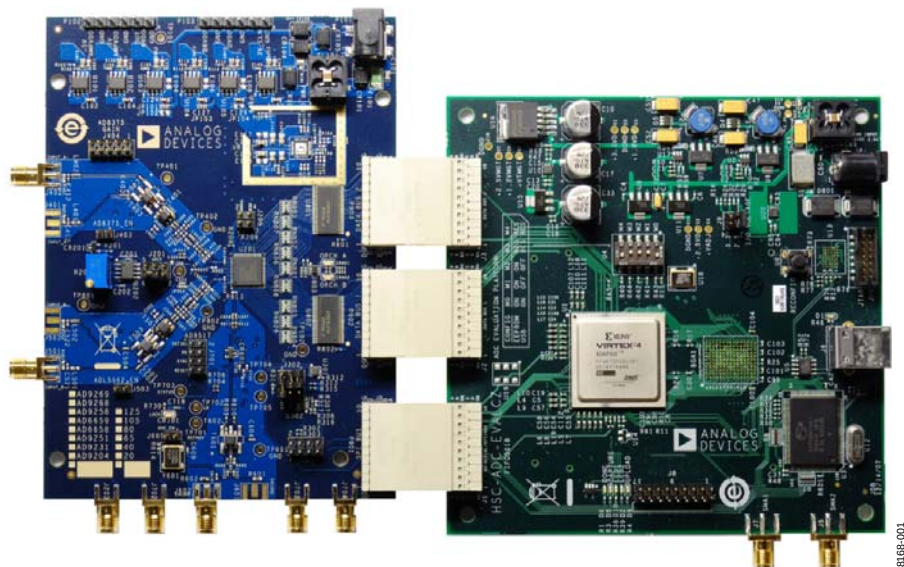
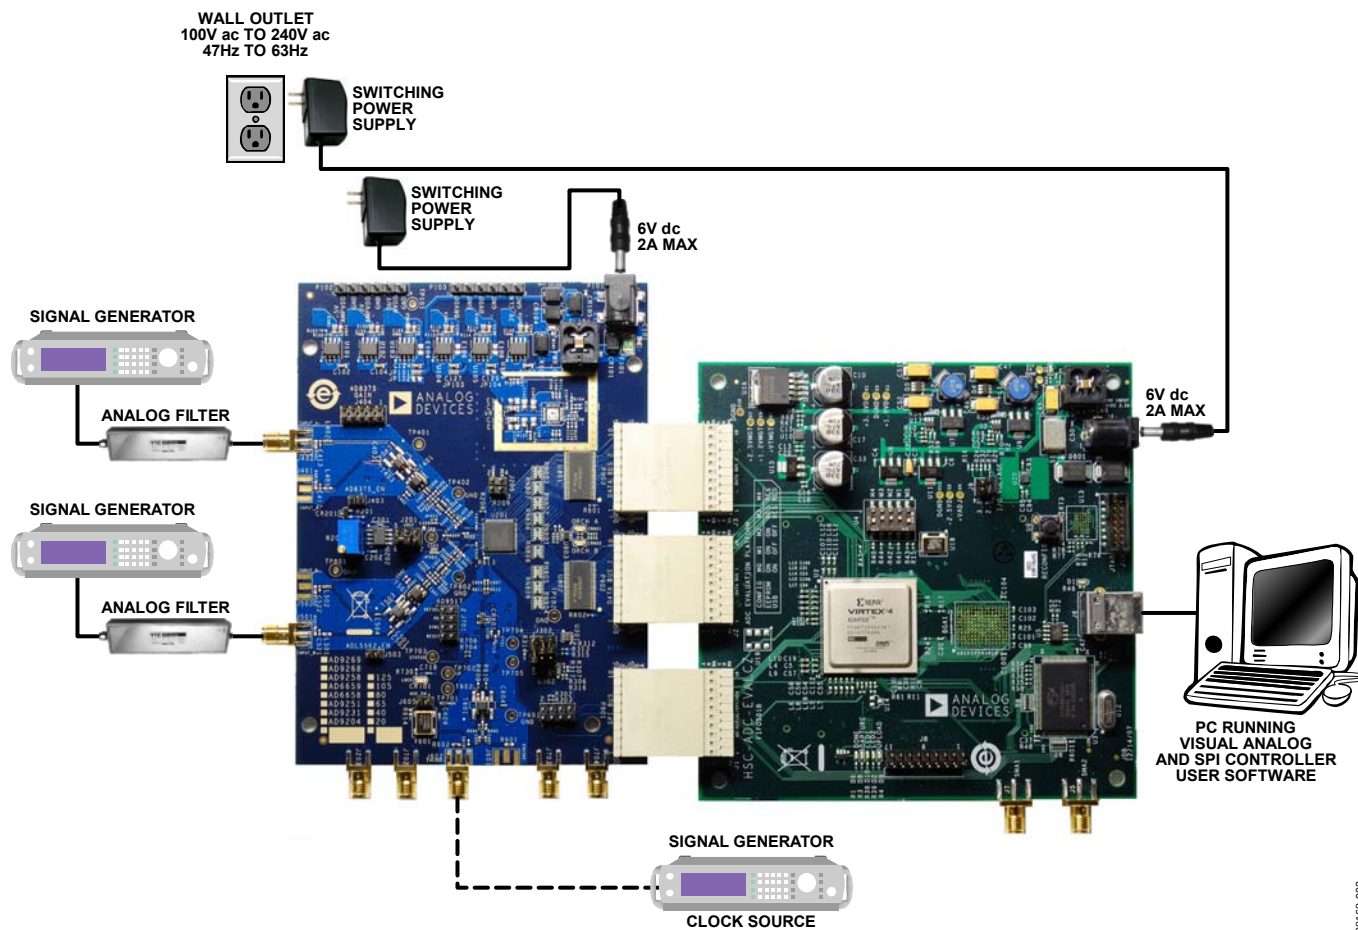

Figure 1. AD9268 and AD9269 Family Evaluation Board and HSC-ADC-EVALCZ Data Capture Board
Figure 2. Evaluation Board Connection
The evaluation board provides all of the support circuitry required to operate these parts in their various modes and configurations. Figure 2 shows the typical bench characterization setup used to evaluate the ac performance. It is critical that the signal sources used for the analog input and clock have very low phase noise (<1 ps rms jitter) to realize the optimum performance of the signal chain. Proper filtering of the analog input signal to remove harmonics and lower the integrated or broadband noise at the input is necessary to achieve the specified noise performance.
1. Connect the evaluation board to the data capture board, as shown in Figure 1 and Figure 2.